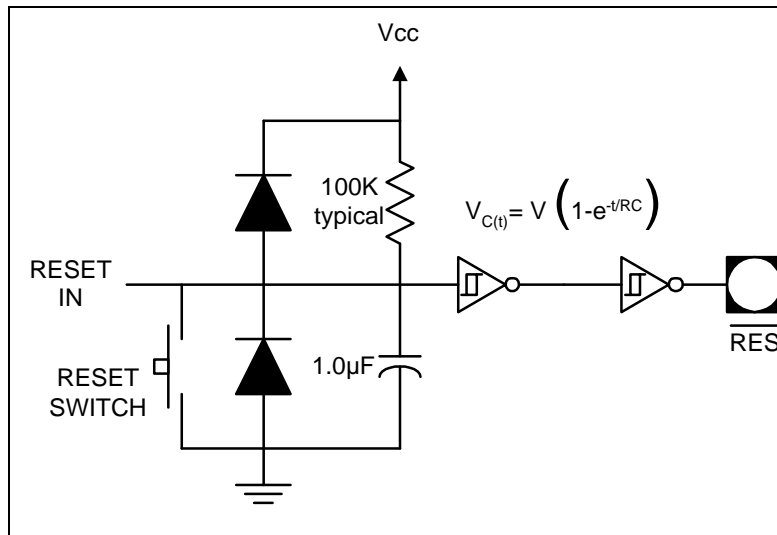

Figure 3. Simple RC Circuit with External Schmitt Triggers for Power-up Reset
To add hysteresis, an external Schmitt trigger must be designed into the reset circuit. This can be implemented as either one non-inverting Schmitt trigger or, more commonly (and with greater cost efficiency), as two inverting Schmitt triggers in series (see Figure 3). Another alternative is to use one of the many reset circuits available in the industry. As an example, the MAX698* or MAX701* should operate acceptably and is available from MAXIM Integrated Products, Inc., (408) 737-7600.